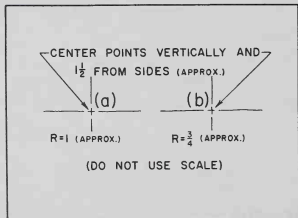

Fig. 2-7. Layout for section A, Plate No. 5.
- In section A, sketch circles around points "a" and "b" as shown in Fig. 2-7.